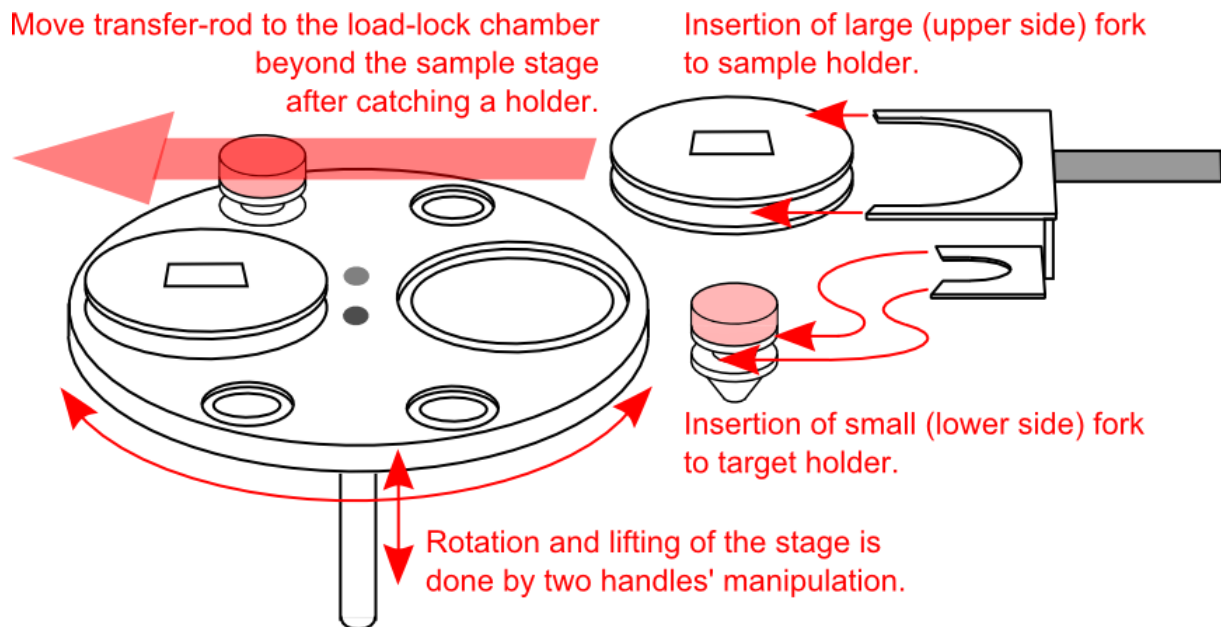

Figure 4: Catching substrate holder/target holder in load-lock chamber.
- (1) Catch a substrate holder/a target holder: handle the substrate holder or the target holder by two kinds of setters, a folk for substrate holder or a folk for target holder at an end of the transfer-rod. Manipulation during catching the substrate holder or the target holder is shown in Figure 4.